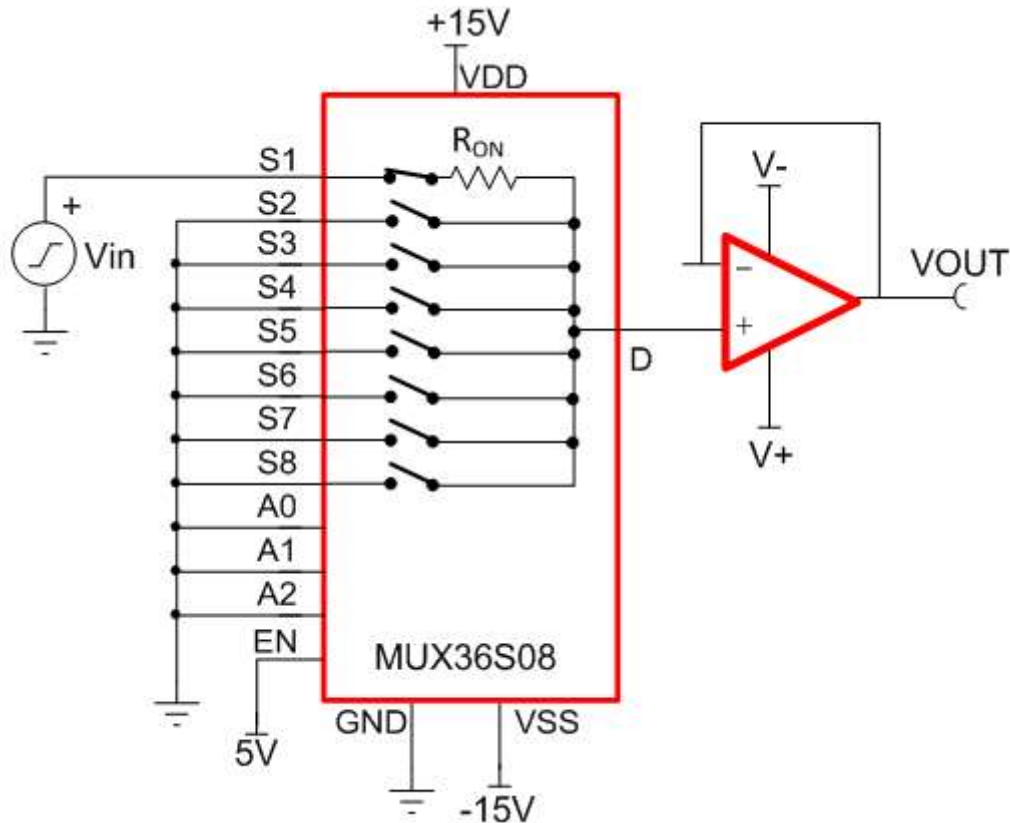

Figure 3: A mux connected to a buffer effectively eliminates gain error caused by the mux on-resistance
- Luckily, you can effectively ignore the on-resistance of the multiplexer through very simple design precautions. Figure 3 shows the output of the mux connected to an op amp configured as a buffer. The high input impedance of the op amp eliminates any gain error the system would otherwise experience.